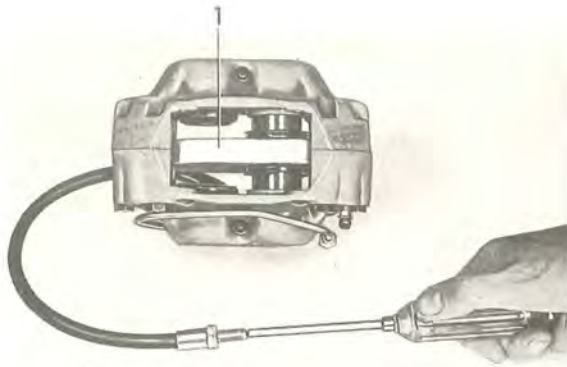

Fig. 5-22. Removing the pistons
2. Remove the retaining rings for the rubber dust covers. Place a piece of wood, similar in shape to that shown in Fig. 5-3, between the pistons and press them out against the wood with the help of compressed air, see Fig. 5-22. The pistons can then be easily removed. Prise off the rubber dust covers.